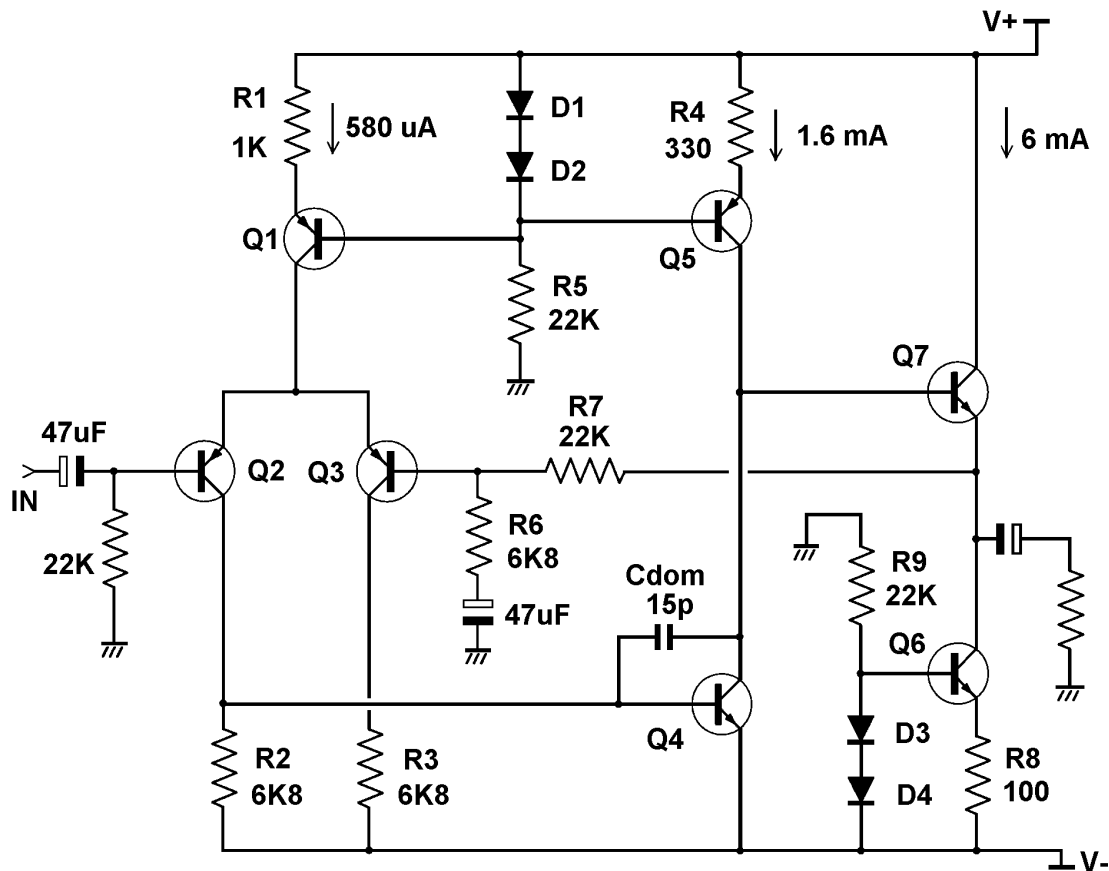
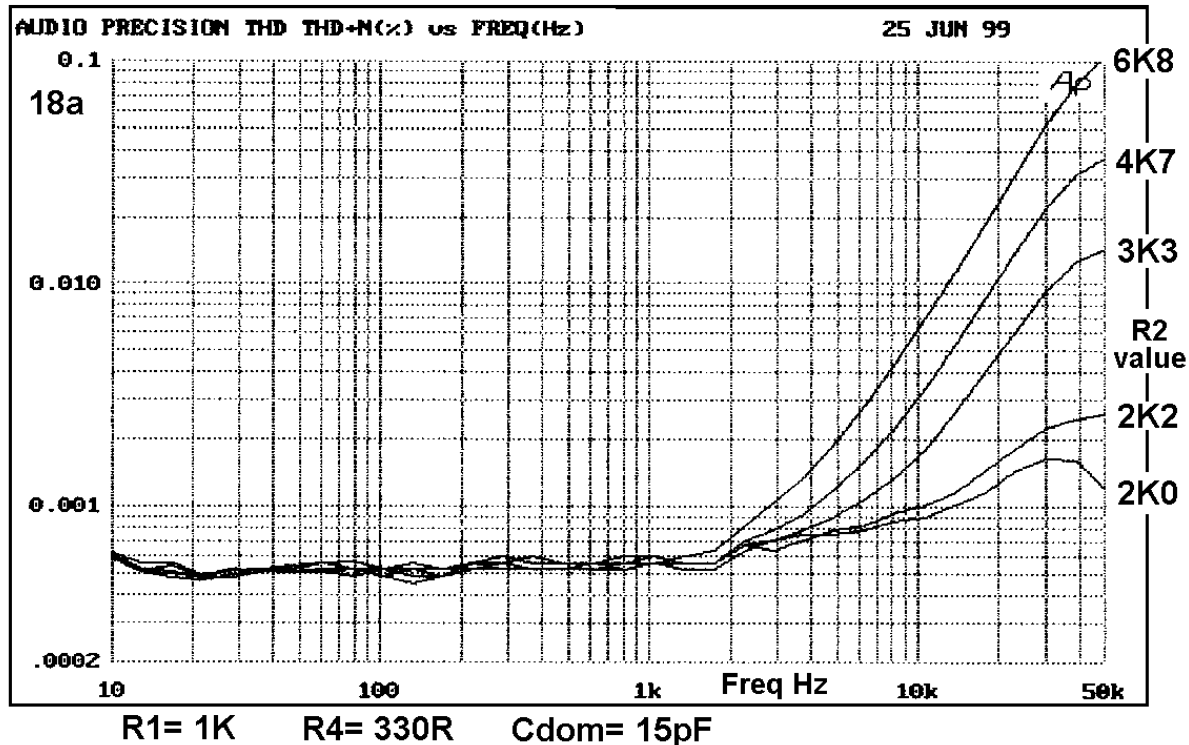

Fig 1 A typical discrete opamp circuit, with current-source output. dsctamp1.gif
Fig 2: Reduction in high-freq THD as input stage approaches balance.
CIRCUIT DESIGN. The opamp in Fig 1 below is relatively conventional in design; its resemblance to a power amplifier circuit is obvious. It consists of 3 stages; the differential input stage, the voltage amplifier stage (VAS), and a unity-gain output stage.
The first stage subtracts the input and feedback voltages, generating the error signal that drives the negative-feedback (NFB) loop. The first stage is a transconductance amplifier, ie it turns a voltage input into a current output. The voltage/current characteristic of this stage is sigmoid, or s-shaped, and the most linear part is in the centre where the collector currents of the two transistors are equal. As a result the value of R2 in Fig 1 is crucial; if it is not twice R1, then the Ics are unbalanced and there is a wholly avoidable rise in 3rd-harmonic THD at high frequencies; this is demonstrated in Fig 2 below.
- Fig 1 A typical discrete opamp circuit, with current-source output. dsctamp1.gif
- Fig 2 The discrete opamp of Fig 1. High-frequency THD is markedly reduced as the input pair is brought closer to balance by reducing the collector resistor to 2K0. 18A